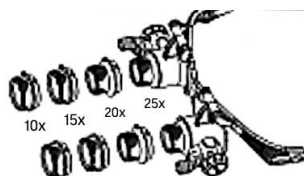

Fig. 1
This tool comes with 4 pairs of left/right magnifying lenses (E), each with different magnification (Fig. 1).